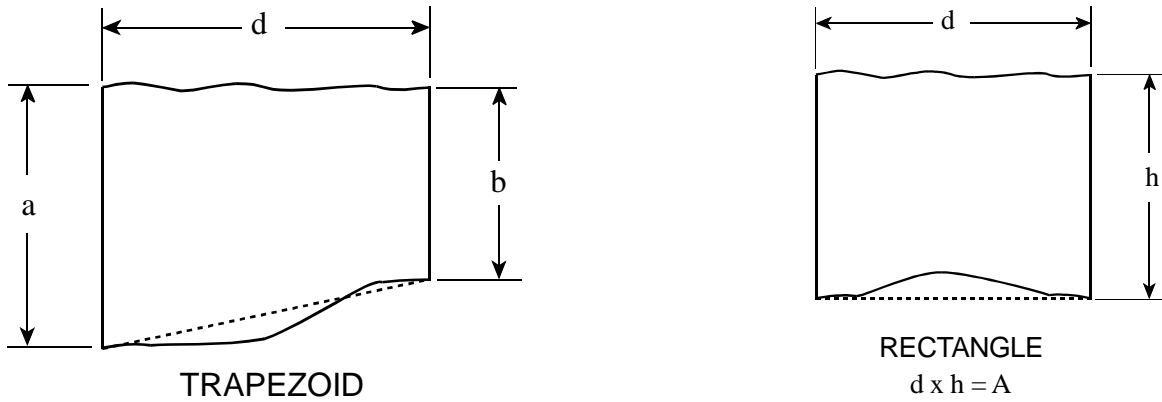

Figure 2-4. Segment Area
- Calculate segment areas (Figure 2-4).